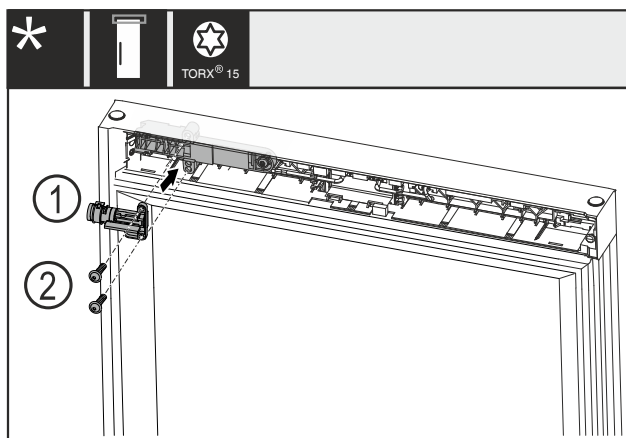

Fig. 19
- ▶ Turn the mechanical lock Fig. 19 (1) by 180° and mount it to the opposite side.
- ▶ Attach the mechanical lock Fig. 19 (1) with screws Fig. 19 (2).